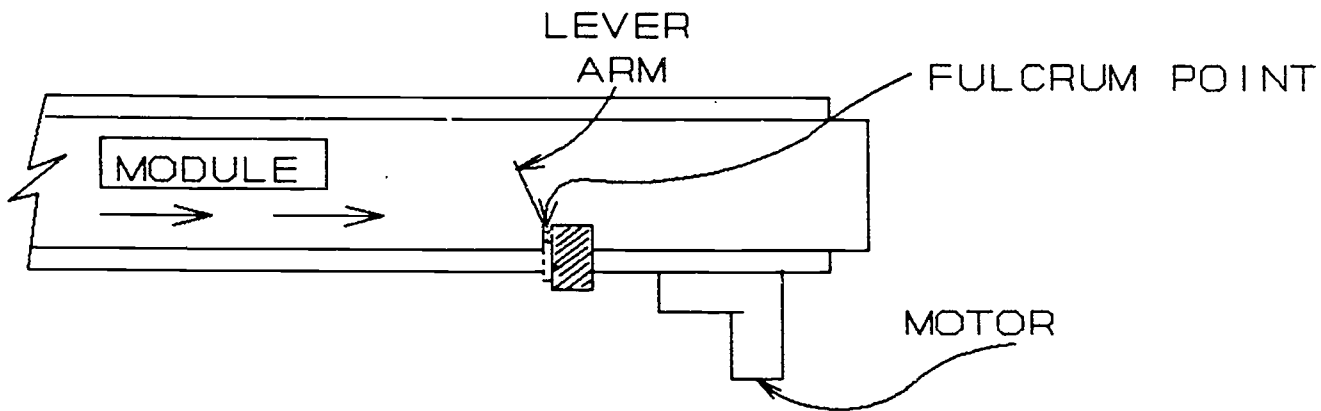

Figure G-12-15
- A. Bend the level very carefully so it bends out toward the direction of the carrier coming down the conveyor belt. (See Figure G-12-15, "Module/Lever Arm Position.")